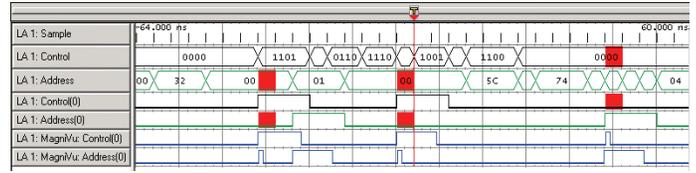

Figure 12. Control (0) and Address (0) lines with MagniVu traces showing glitches caused by crosstalk.
Now, the MagniVu high-resolution timing is used to examine the two remaining flagged lines, Control (0) and Address (0). Figure 12 shows that since the MagniVu waveforms are examining the signals at a much higher resolution, 20 ps, they are able to discern far narrower glitches on the two lines. Note that the glitch and a pulse occur at the same time on both signal lines. That often indicates crosstalk between the two signals. To be sure, it's necessary to take a different kind of close-up look at the signals. Proceeding to Step IV will reveal more about this.